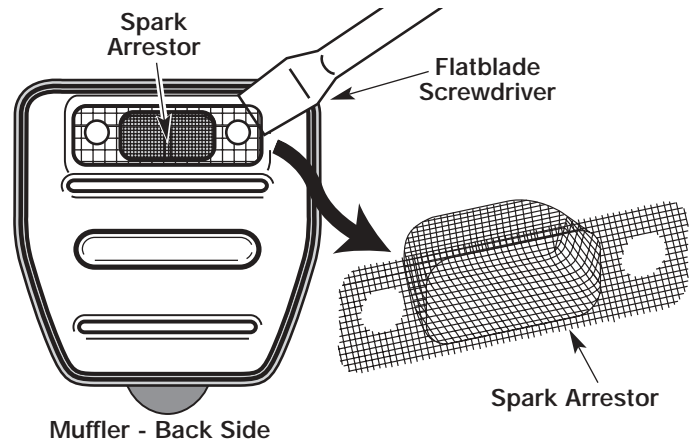

FIGURE 29
4. Using a small flatblade screwdriver, carefully pry up the spark arrestor from the recessed hole, Figure 29. Remove the spark arrestor from the muffler.
5. Clean the spark arrestor with a wire brush. Replace if it is damaged or unable to thoroughly clean, Figure 29.